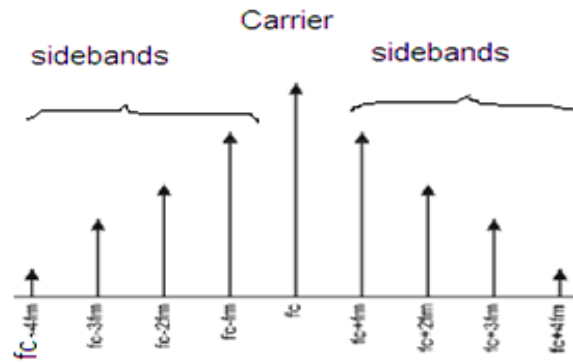

Fig.3.3
- ❖ The general structure of frequency spectrum of FM is shown in Fig. 3.3